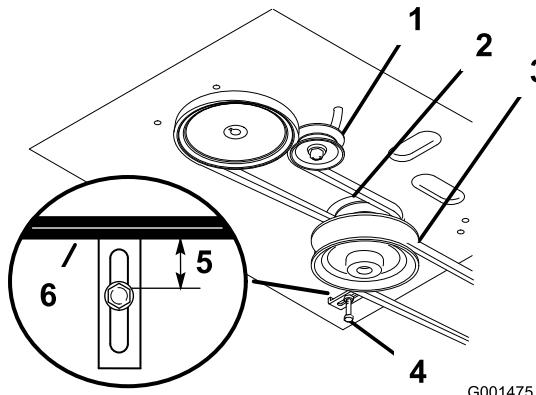

Figure 32
4. Remove the mower belt (Figure 32).
5. Loosen the pivot bolt enough to slide the idler pulley in the slot and remove the traction belt from the engine and the drive pulleys (Figure 32).
6. Install the new drive belt around the engine and the drive pulleys (Figure 32).
7. Slide the idler pulley in the engine frame to tension the traction belt (Figure 32).
8. Install the mower belt (Figure 32).
9. Check the belt guide under the engine frame for the proper adjustment (Figure 32).
13. Check the belt guide under the engine frame for the proper adjustment (Figure 32).